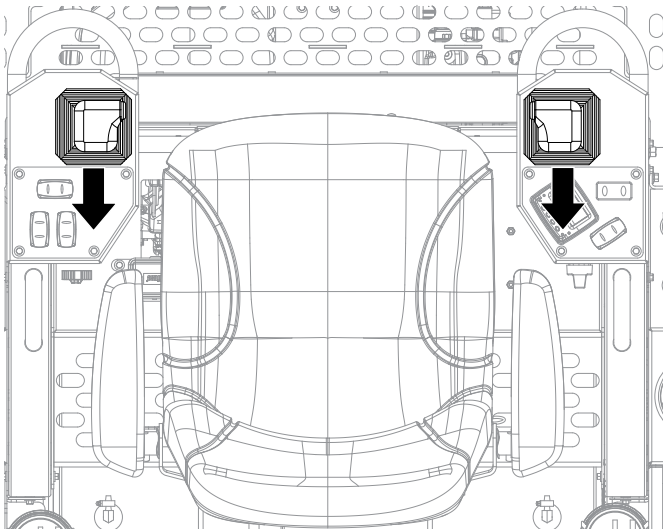

Figure 25. Joysticks (Reverse)
- Pull both the left and right joysticks **backward** (Figure 25) and repeat steps 2 through 5 while substituting the word 'reverse' for 'forward'.